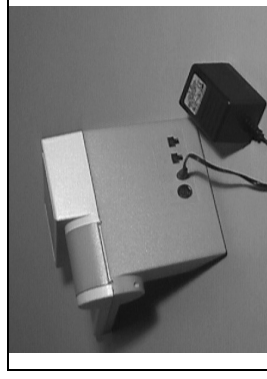

Figure 4.1 Rear connection
- B. Connect the external voltage adapter to the connection at the rear of the instrument (Figure 4.1) utilising the appropriate jack and the other end of the adapter lead to an electrical socket outlet of 110 Vac to 220 Vac